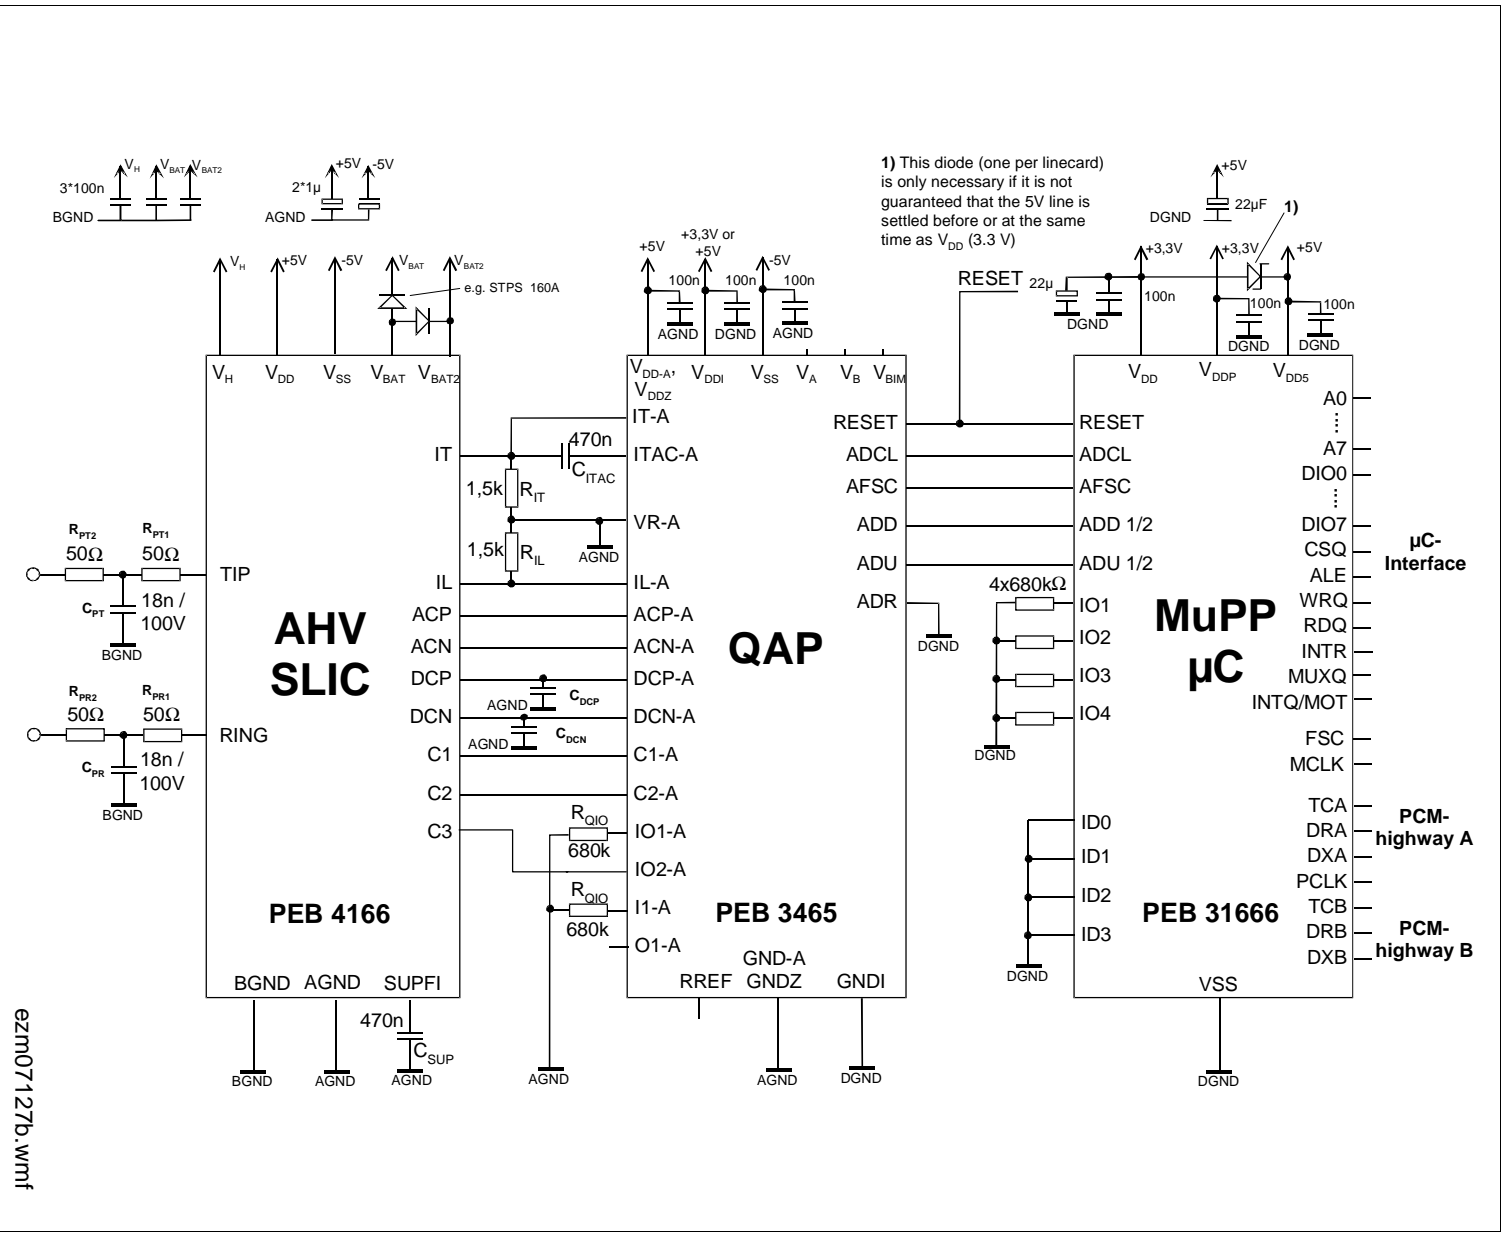

Figure 11 Typical Application Circuit of the MuSLIC Chip Set
**Table 2 List of Components in Typical Application Circuit (Figure 11)**